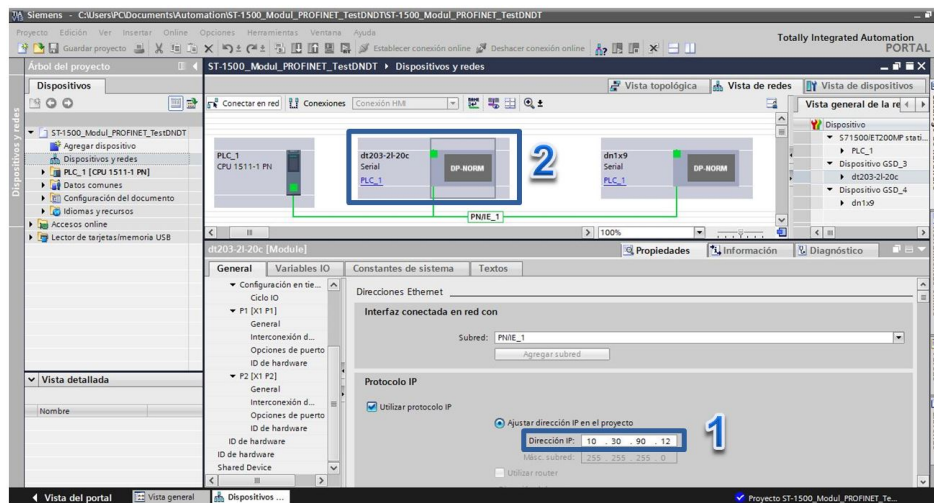

Fig. 11 Define the Displays connection with PLC
To download the configuration to the device, select the network card in the “**PG/PC interface**” field (3) at “**Extended download to device**” window, and establish the identifier of the Profinet network (PN/IE_1 in this example, See Fig. 11) in the “**Connection to subnet**” field (4).